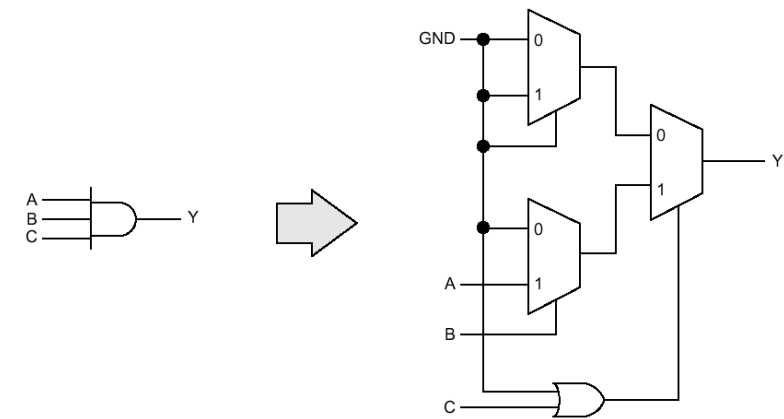

Figure 3.5 Actel basic logic element configured as a 3-input AND gate
- Each logic element (labelled 'L') is a combination of multiplexers which can be configured as a multi-input gate as shown in Figure 3.5).